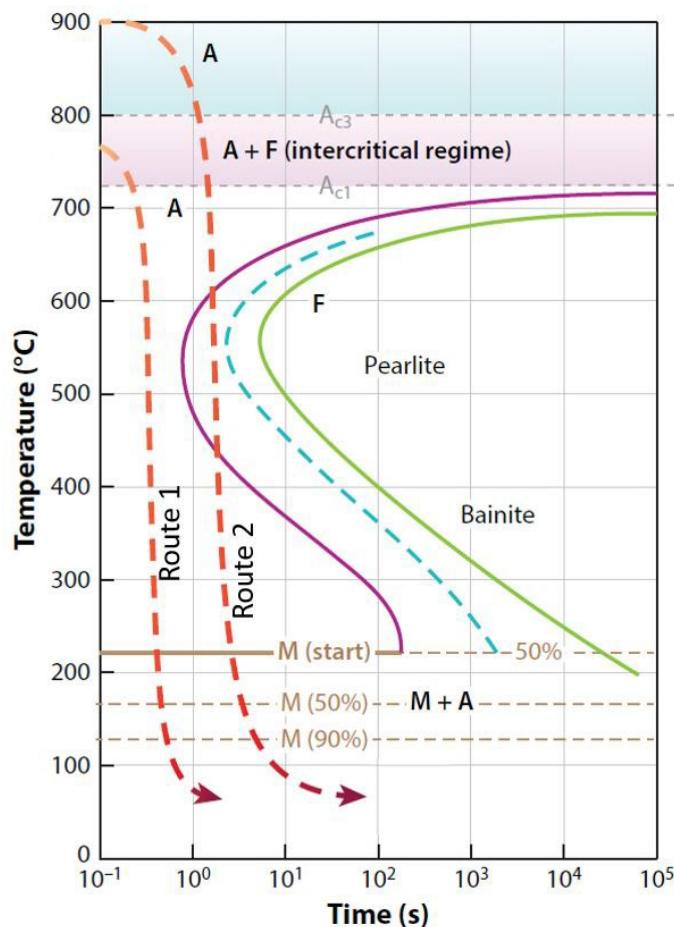

Figure 3. TTT diagram indicating the heat treatment methods of a DP steel;
b) Figure 3 demonstrates two heat treatment routes to obtain a DP steel (the volume fractions of the two phases are 70% and 30%).